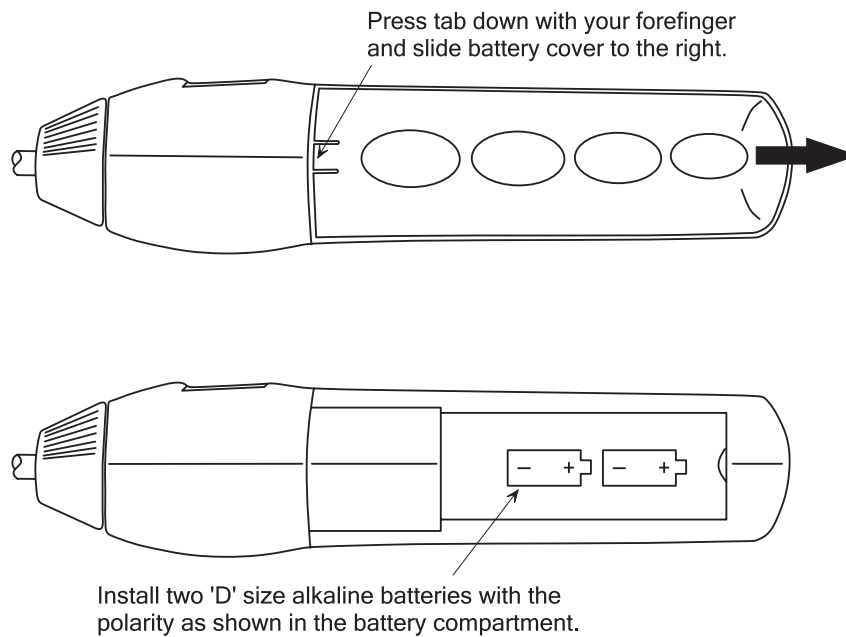

Figure 2. Battery Installation
1. Remove battery cover by pressing down on the battery cover tab, and then sliding the cover off the instrument. See Figure 2.